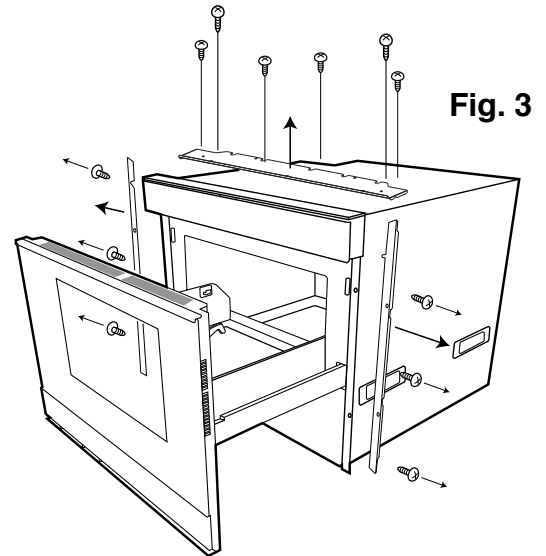

Fig. 3
1. Remove the (6) screws from the right & left Side Angles.
2. Remove the (7) C/P Cover screws behind the Control panel (**Fig 3**)